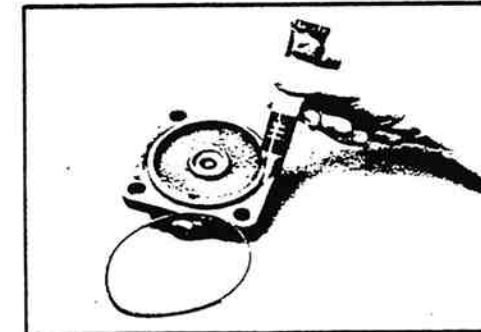

Figure 11-70. Applying Grease to O-ring Groove.
17. Assemble the worm shaft preload adjusting screw (27) into the end cover (26) a few turns. Final adjustments will be made later.
18. Apply clean grease to the end cover O-ring groove on the end cover (26). Install the new end cover O-ring (24) into the end cover O-ring groove (figure 11-70).